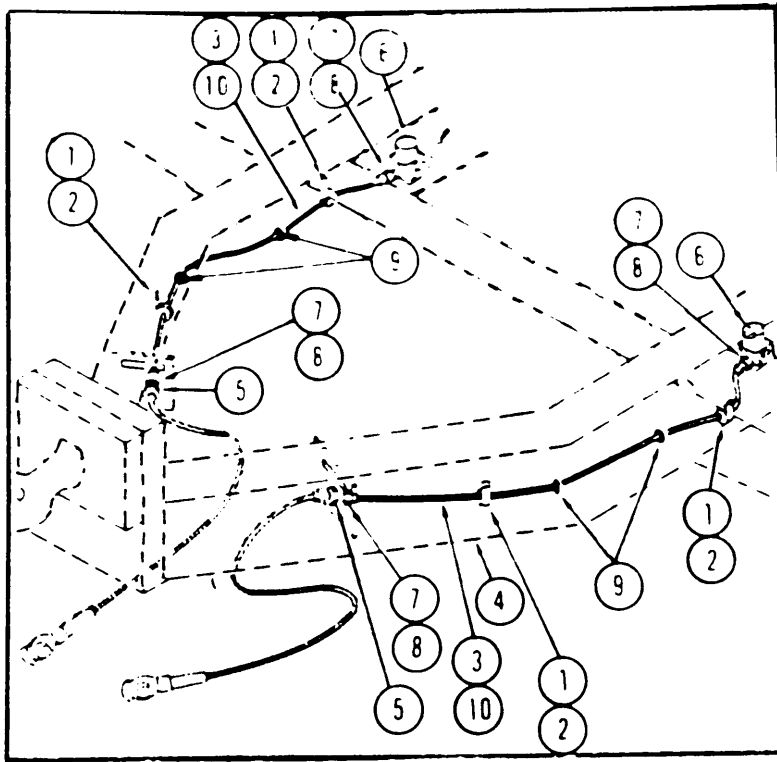

Figure 2-31. Trailer Air Brake Tubing Sections Between Anchor Couplings and Air Chambers Assemblies (ARMY)
2-36. TRAILER AIR BRAKE SYSTEM TUBING. (Figure 2-31) (ARMY)
(3) To install the sections of tubing between the anchor couplings and the air cleaner assemblies (figure 2-31), perform the following:
- (a) Install conduit (10) on tubing (3), then install grommets (9) on tubing (3).
- (b) Position tubing (3) and grommets (9) in trailer frame (4).
- (c) Connect tubing (3) to anchor couplings (5) and air cleaner assemblies (6) with nuts (7) and sleeves (8).
- (d) Install clamps (2) on tubing (3) and secure to trailer frame (4) with nuts (1).